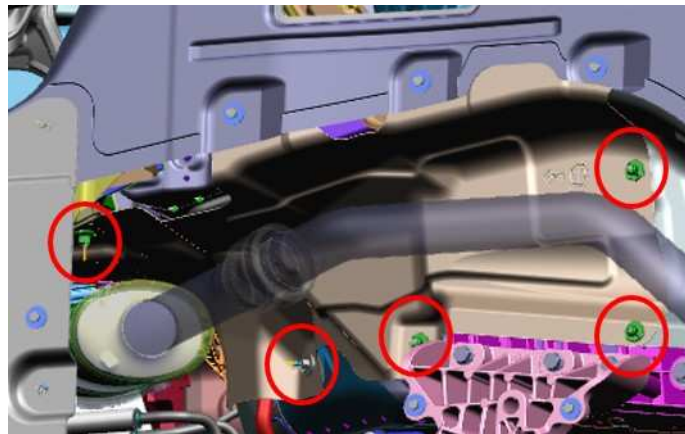

Fig. 13
5. Remove the five remaining fasteners securing the heat shield to the body (Fig. 13) .
8. Install the five fasteners securing the heat shield to the body (Fig. 13) . Tighten steel nuts to 6 N·m (53 in. lbs.) and plastic nuts to 4 N·m (35 in. lbs.).